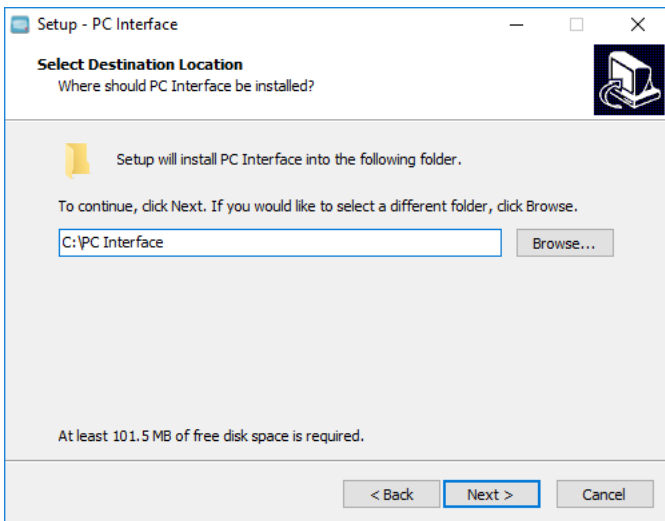

Figure 98. Installation location screen
- A prompt window appears to verify installation location. The default location is indicated in **Figure 98**, or the user can browse to a more desirable location.
- Make sure you have enough disk space to install the software (**Figure 98**). If not, you will see an error message. Select Next.